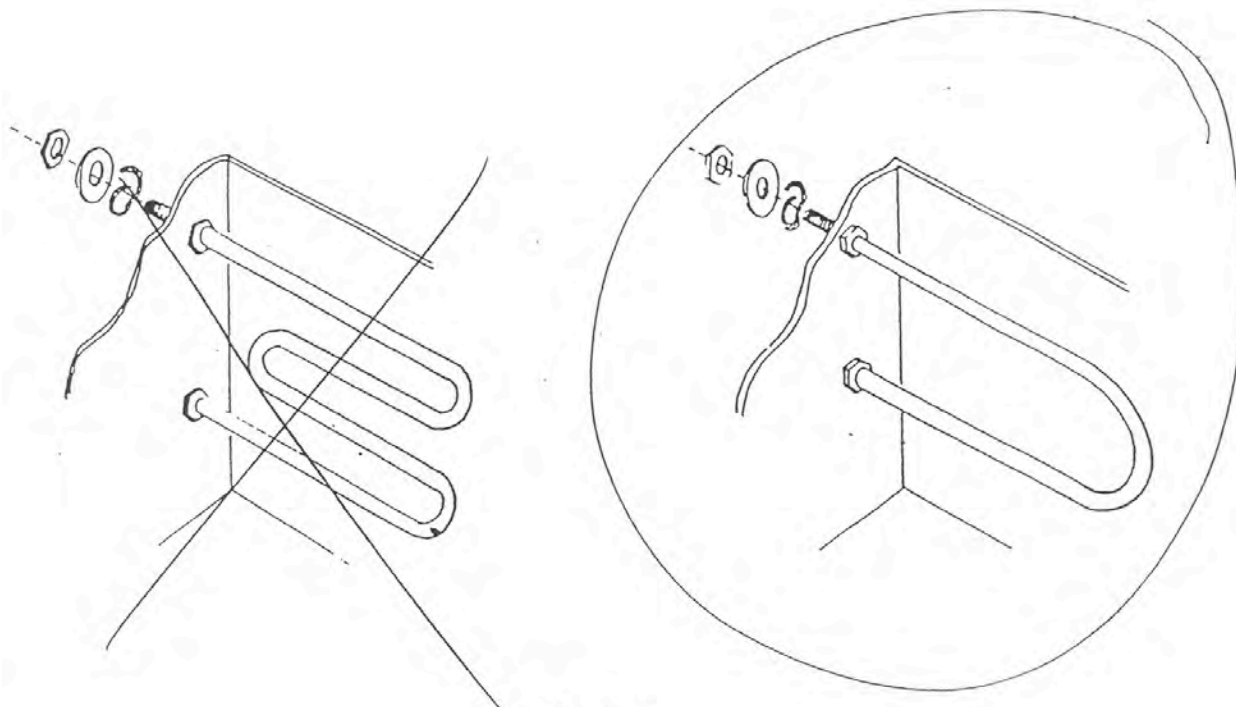

Figure 1
6. Figure 1 shows how the heat exchanger coil is to be fastened to the inside of the stove. Following this diagram, run a locknut all the way to the end of each leg, flat side toward the firebox, making sure there are no threads exposed inside.